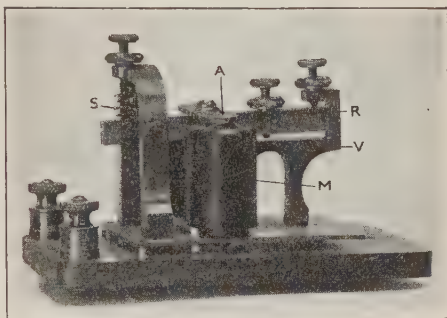

FIGURE 362.—TELEGRAPH SOUNDER.
magnet of the horseshoe type (M, Figure 362). A soft-steel armature (A) is suspended above the poles of the magnet by means of a rocker arm (R). This rocker arm is pivoted to a post near one end of the sounder, and held away from the magnet by a spring (S). When a current is sent through the